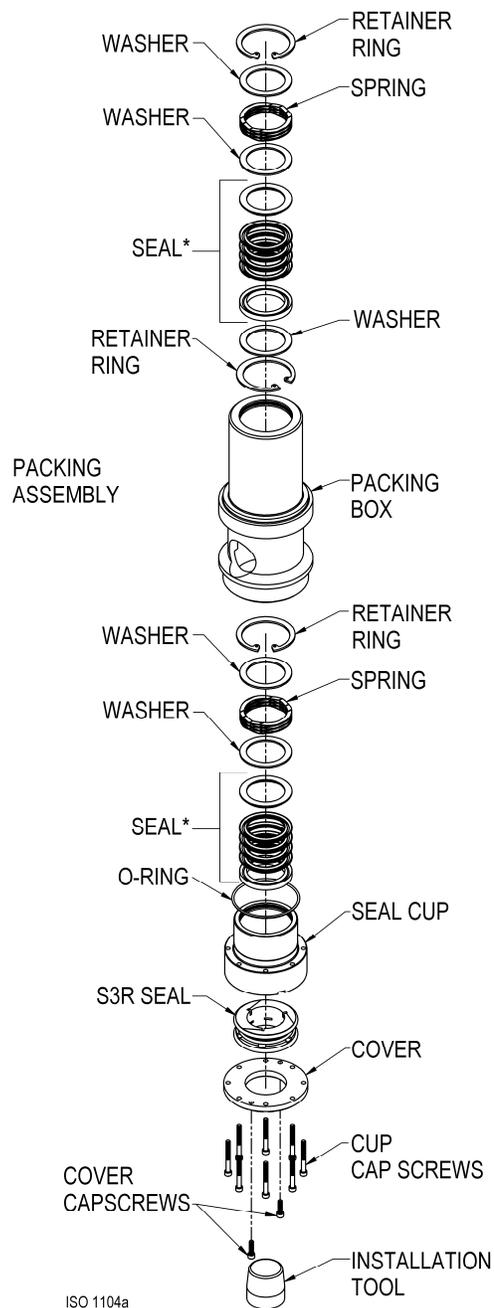

Fig. 13a – Packing Box Assembly
5. Models: HDS602C and HDS612C: Packing boxes contain the upper packing set and a seal cup fastened to the bottom. The seal cup contains the lower packing set and the S3R seal. See Fig. 13a.
- Refer to Figs. 13a & 13b. Lightly oil the packing rings, then install the packing rings, washers, spring and retainer ring.